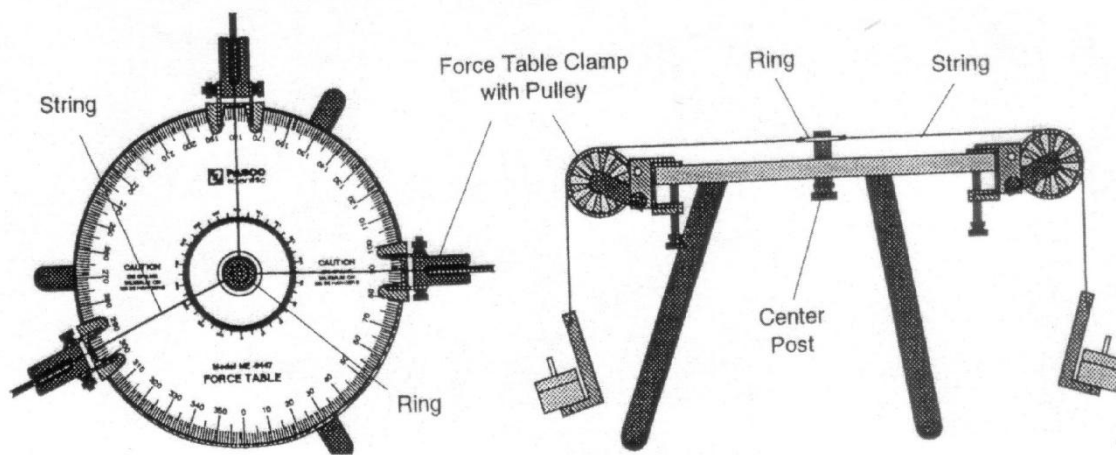

Figure 1.4: Ring method of stringing force table.
2. See Fig.1.4 to use this method, screw the center post up until it stops so that it sticks up above the table. Place the ring over the post and tie one 30 cm long string to the ring for each pulley. The strings must be long enough to reach over the pulleys. Place each string over a pulley and tie a mass hanger to it.